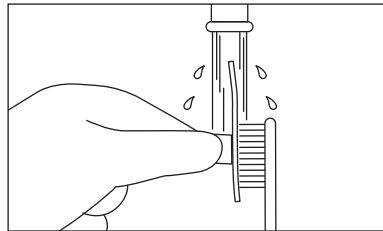

Fig. 13
- 3) Clean the external surfaces of the irrigation nozzle with a soft bristled toothbrush for 15 seconds or more. (Fig. 13)